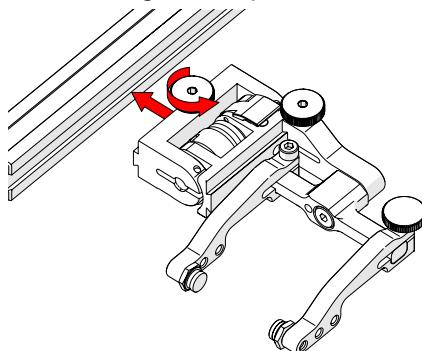

Fig. 196 - Attach to frame bar
1. Rotate the probe holder adjustment knob and attach probe holder to a frame bar (Fig. 196).